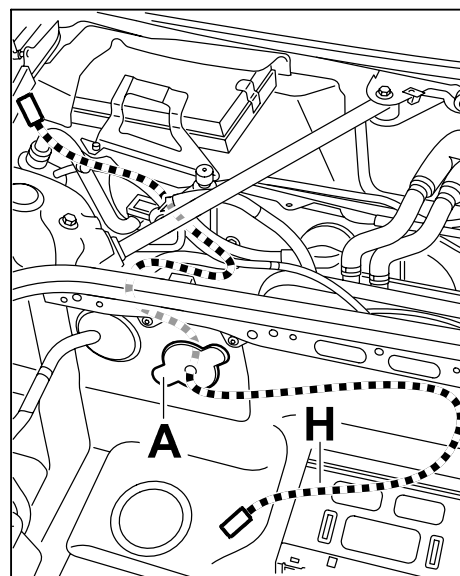

Figure 4
- 5.4 Punch rubber grommet ⇒ *Figure 4 -A-* from the front panel.
- 5.5 Route and secure GPS antenna cable ⇒ *Figure 4 -H-* as follows: